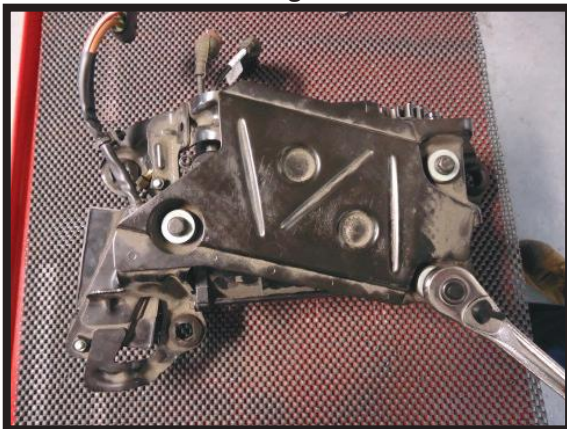

FIGURE 12
3. Remove the three (3) mounting bolts before removing the compressor from the mounting bracket. Set mounting bracket aside. (FIGURE 12)